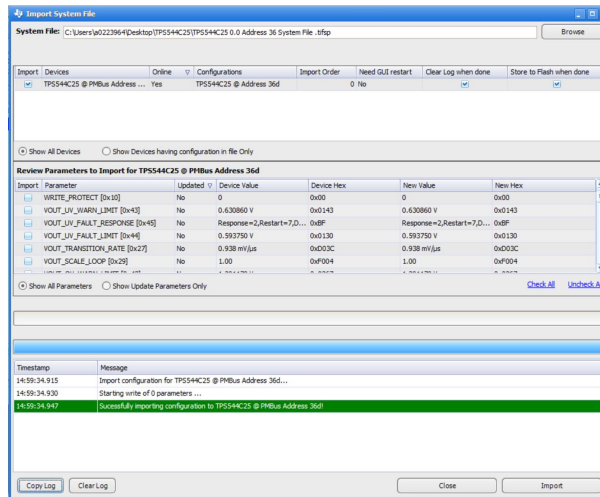

Figure 25. .Importing System File
2. The import dialog box appears after you select a file to import. You can review the parameters using the import dialog box by clicking on Show Update Parameters Only. Once you are done reviewing the updated parameters, click the Import button to import the system file to the device (as shown in Figure 25).